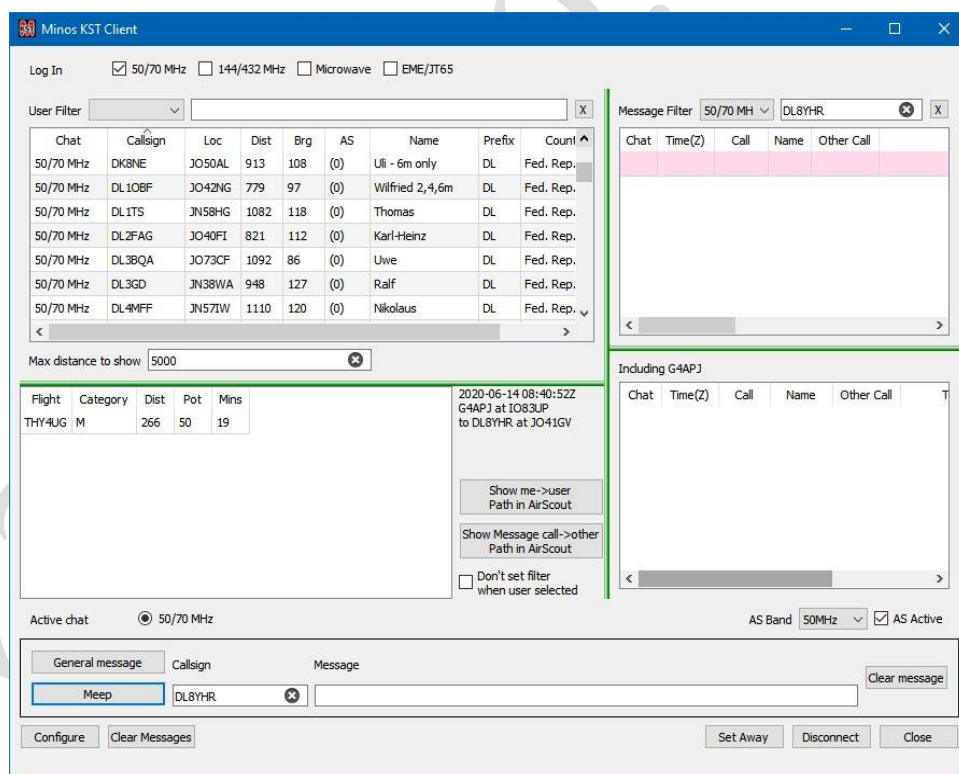

Figure 152 – Airscout operational in KST Client
Once the connection is established¹⁴² additional information (AS) is displayed in the User panel (on the left), and a new panel appears bottom left (Figure 152).